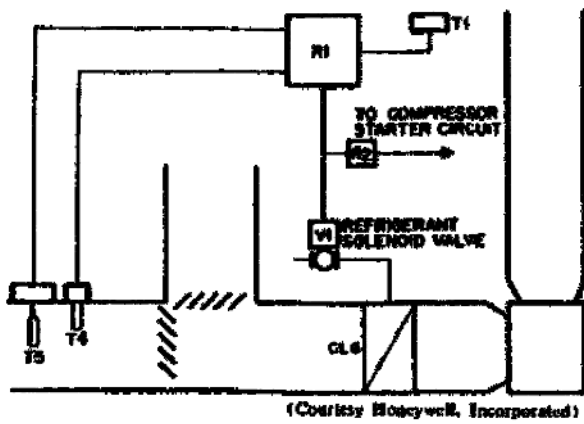

Figure 134. Refrigerant solenoid valve control system.
**6. Refrigerant Solenoid Valve Control.** The electron control panel R1 in figure 134 will control space temperature by coordinating signals from the space thermostat T1 and the outdoor thermostat T4 to operate the refrigerant solenoid valve V1. T4 will raise the space temperature as the outdoor temperature rises to a predetermined schedule. T5 will remove T4 from the system when the outdoor temperature falls below the setting of T5 to prevent subcooling of the space at low outdoor temperature.